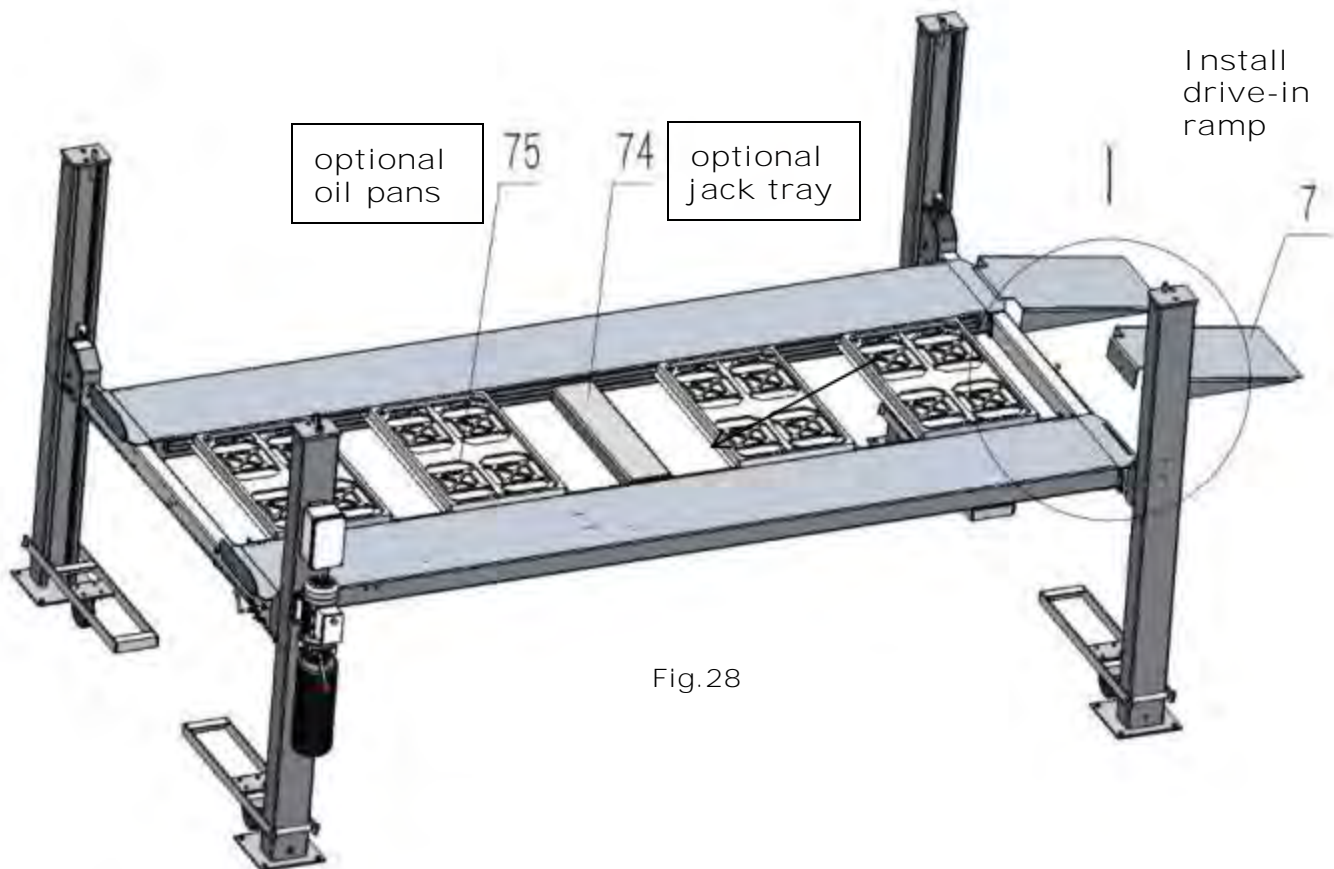

Fig.28
N. Install drive-in ramp, optional jack tray and optional oil pans (See Fig. 28).